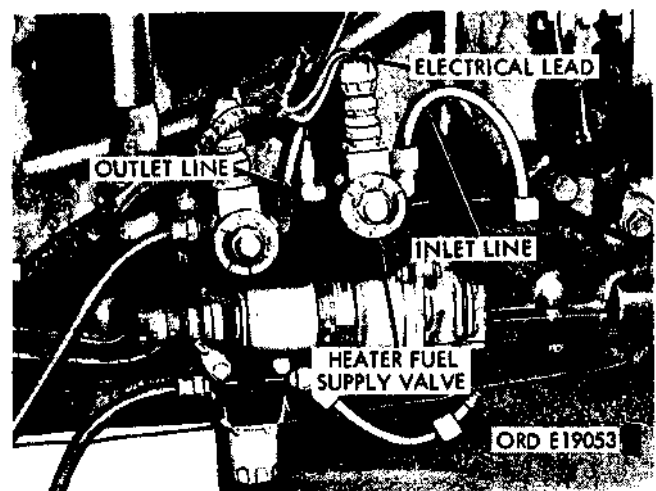

Figure 54.38. Manifold heater supply and fuel return valves - multifuel engine LDS 465-1.
(14) Disconnect the electrical lead and inlet and outlet lines from heater fuel supply valve and/or fuel return valve (figure 54.38).